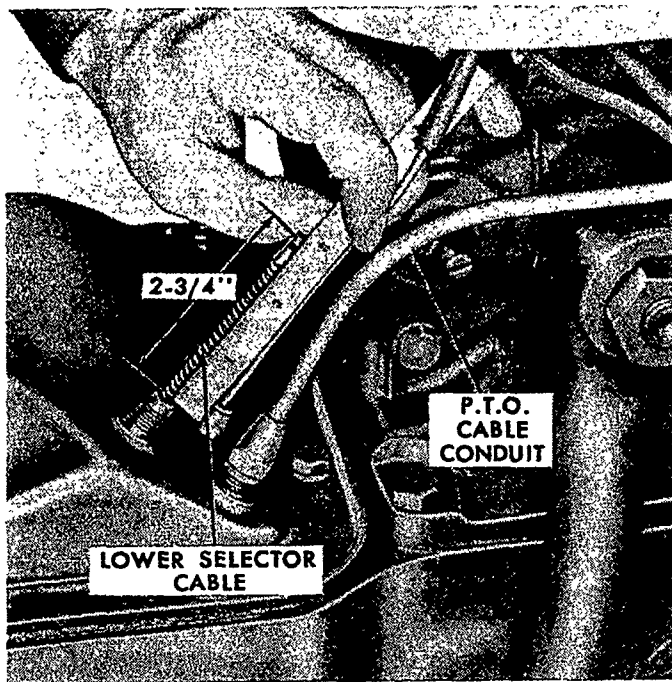

Figure 37
- Install the lower selector cable into the cover to obtain a length of 2-3/4" as shown in Figure 37. The distance is determined from the top of the fitting to the upper side of the notch. This dimension synchronizes the selector to the control valve when the valve is in the park (P) position.
- Connect the selector cable to the lower cable extending from the cover and shift the selector lever to park (P) to bring the conduit to the fitting on the cover.